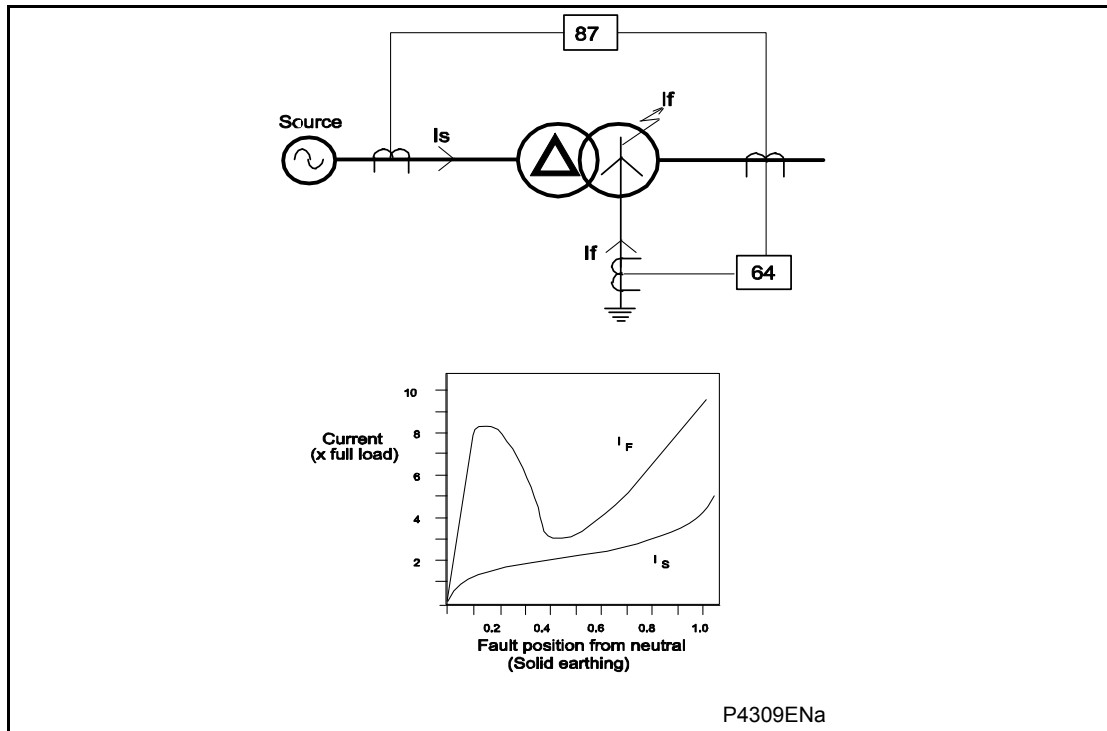

Figure 47: Fault limitation on a solidly earthed system
If a fault on a solidly earthed star winding (Figure 47) is considered, the fault current is limited by the leakage reactance of the winding, any impedance in the fault path and by the fault point voltage. The value of fault current varies in a complex manner with fault location. As in the case of the impedance earthed transformer, the value of current available as an overall differential protection operating quantity is limited. More sensitive earth fault protection is provided by a restricted earth fault relay (64), which is arranged to measure I_f directly. Although more sensitive protection is provided by REF, the operating current for the overall differential protection is still significant for faults over most of the winding. For this reason, independent REF protection may not have previously been considered necessary for a solidly earthed winding, especially where an additional relay would have been required. With the P64x, the REF protection is available at no extra cost if a neutral CT is available.